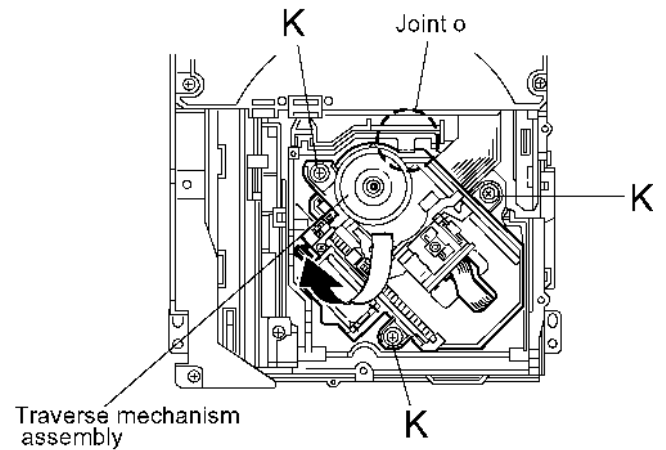

Fig.26
3.1.8 Removing the traverse mechanism assembly (See Fig.26)